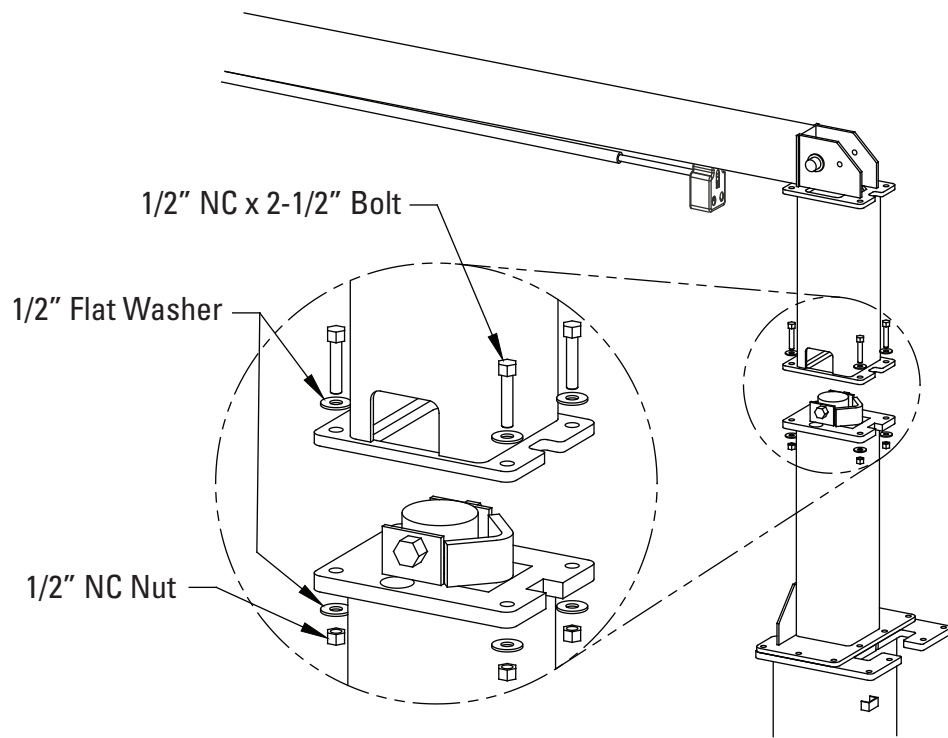

Figure 10
- Raise the overhead beam and secure it to the top of the uprights using eight 1/2 x 2-1/2 bolts, Figure 10.